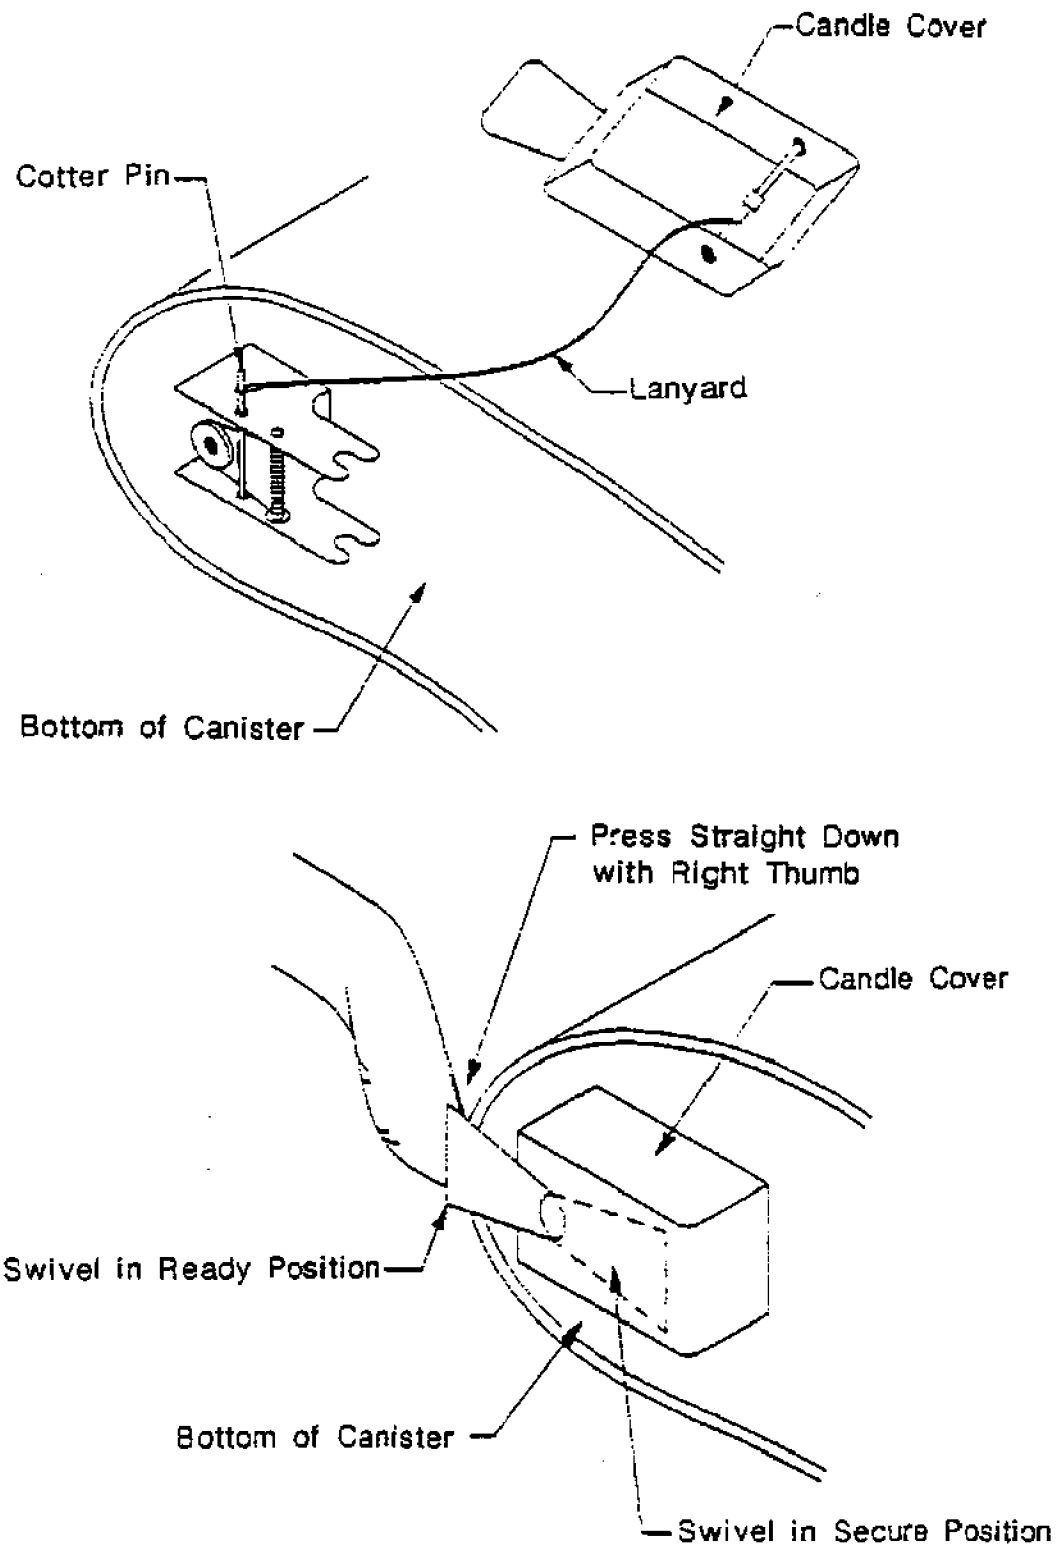

Figure 077-3-3. Candle Cover
**Do not pull the lanyard when removing candle cover. Pulling the lanyard removes the cotter pin, which fires the candle and oxygen is generated. The cotter pin and candle cover are shown in Figure 077-3-3. If the canister is fired while the copper foil seal is still in place, pressure will build in the canister causing the copper foil seal to rupture.**
- b To remove candle cover, hold canister upside down and rotate swivel plate 180 degrees. Pull swivel plate up and toward center of canister. This is illustrated in Figure 077-3-3. Leave cover dangling from lanyard. Do not pull lanyard.